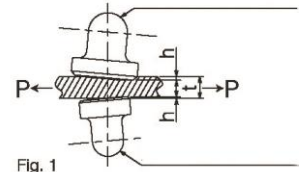

Fig. 1
1. The load-acting points on both the screw cap and the cam are hemispherical (pivot-shaped). Consequently, if the suspension load moves by even a minute amount, the clamp will rotate in synchronism with this motion and tilt in the forward direction. This in turn will cause the teeth to cut into the suspension load with a large force. (Refer to Fig. 1.)
6. A hemispherical W cam system is employed, causing the clamp to cut into the load from both sides. (Refer to Fig. 1.)
5. Appearance and function. (damage to the body, operating condition of the screw, rotation and tilt of the screw cap and cam, wear and clogging of the teeth, and so on) Refer to Fig. 1 and item 2 of "Precautions for use."